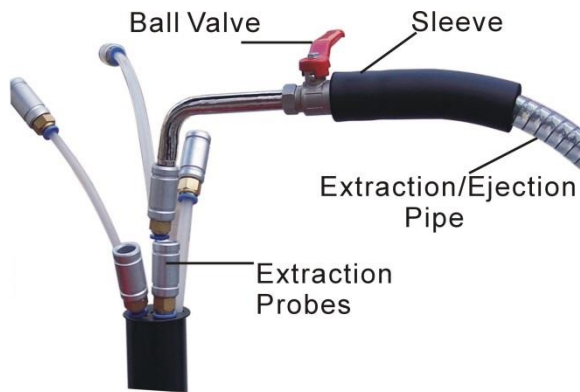

Fig. 2
2. Choose suitable probe (which is the largest diameter one can be inserted into the engine) and tightly connect it to the extraction pipe connector. (refer to Fig.2)
4. Open the ball valve (see Fig.2),the oil will be extracted into the oil tank from engine.
5. After finish extraction, turn off the extraction ball valve (Fig.2)